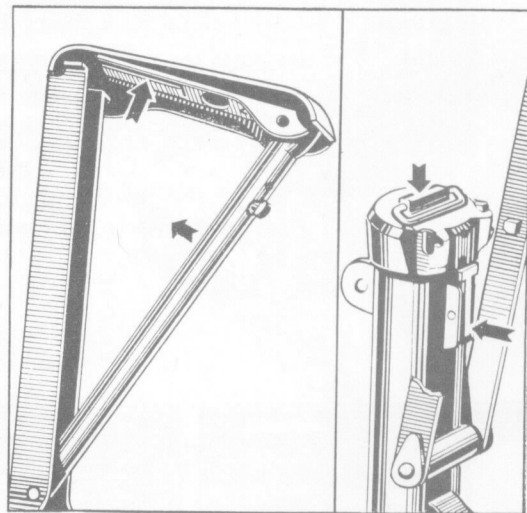

Fig. 9. To close butt
**7.0 TO CLOSE BUTT** (Fig. 9). Release the butt plate catch and collapse the triangle by pushing the tubular member into the frame. With the thumb of the left hand press the back cap catch, at the same time push the back cap forward and swing the butt away from the back cap. Pivot the butt to its folded position, swing the butt plate out to operate the butt catch to engage in the barrel casing, then fold the butt plate flat to lock in position.